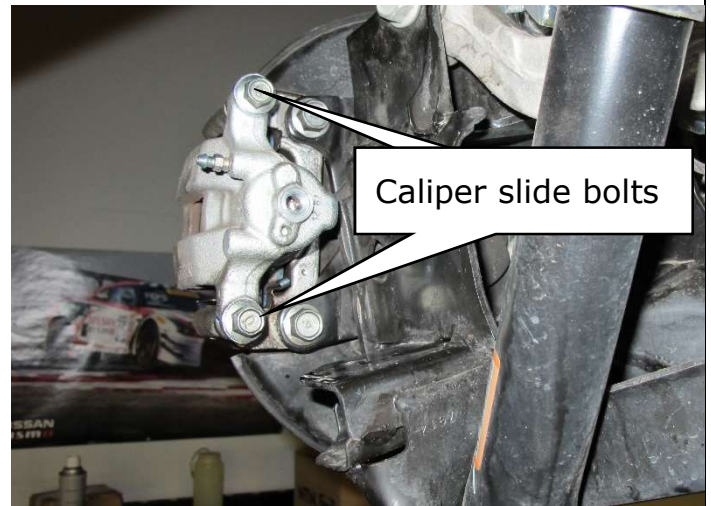

Figure 12
- Install the caliper slide bolts (Figure 12)